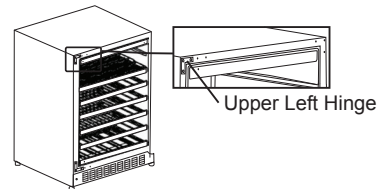

Figure 5
5. Install new left hand top hinge (prepackaged inside unit) at the left hand cabinet corner. (See Figure 5.)